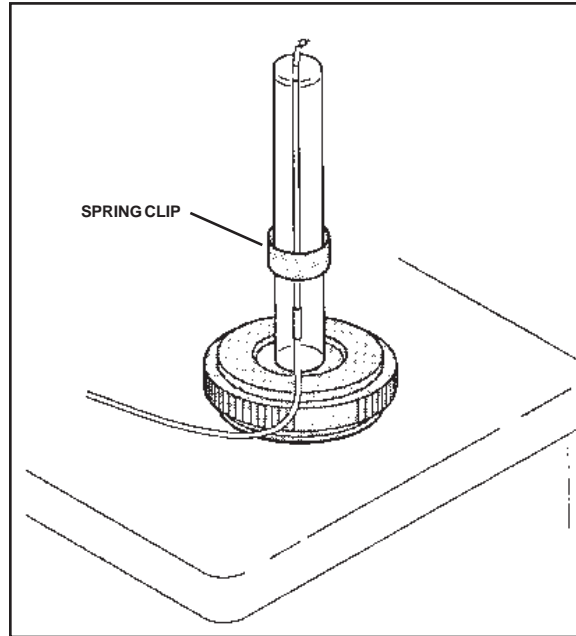

Figure 2.8
- b. Hold the thermocouple against the stage assembly and put on the spring clip to hold the thermocouple in place (see Figure 2.8).